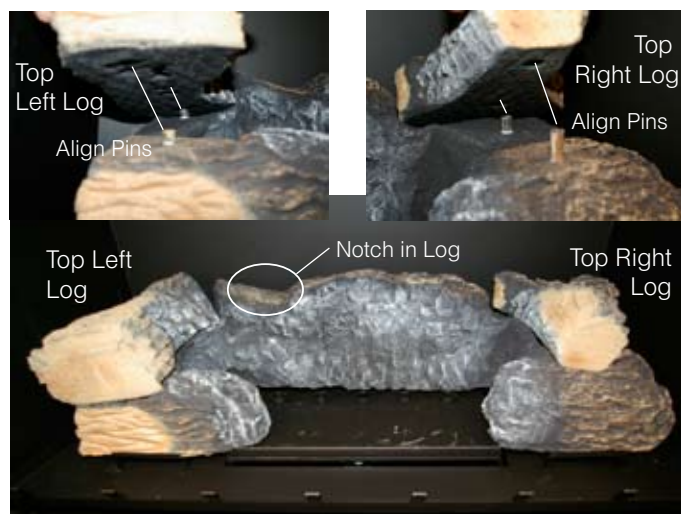

Figure 30d. Placing Top Right and Left Logs.
Step 5. Place the Top Right and Left logs using the (4) four alignment pins protruding from the top of the Right and Left Bottom Logs, as shown in figure 30d. With these pins align the Top Right and Left logs using the predetermined alignment holes cast into the underside of the logs, as shown above, figure 30d insets.
Step 6. Place the Centre Front log, Figure 30e below, as shown using the notch cast in the Bottom Rear log as shown in figure 30d above.